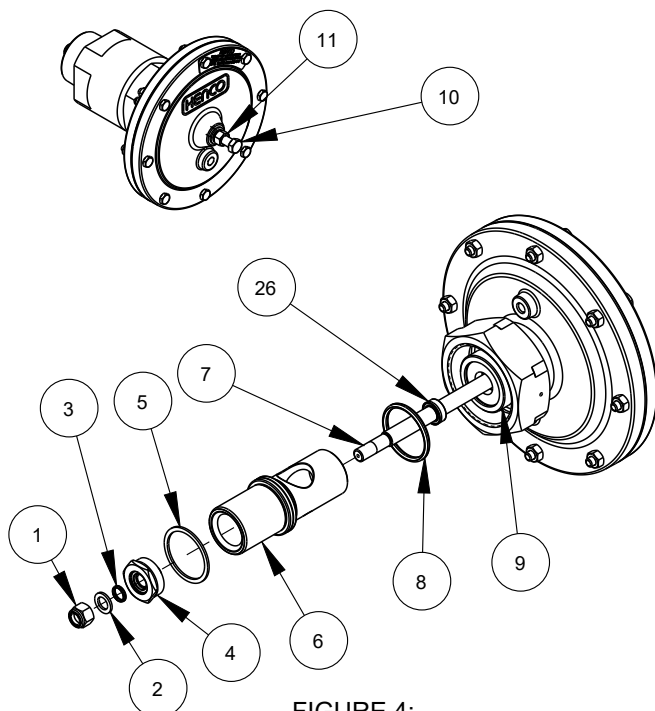

FIGURE 4:
6. Loosen the jam nut (#11) and spin it all the way to the top of the maintenance bolt (#10) (See Figures 4 & 5)
5. Remove the O-ring (#25) and insert the new O-ring into the groove in the spud (#9 in figure 4). Use plenty of O-ring lubricant.
11. Gently work the packing over the trim shaft. Make sure it is oriented properly. The narrow end will sit in the bottom of the groove and the wide end should face the trim plug. **Warning!** If this seal is put in backwards, the valve will leak fluid and/or gas out of the weep hole. Use the trim seat (#6 Figure 4) to fully seat the packing in the groove.